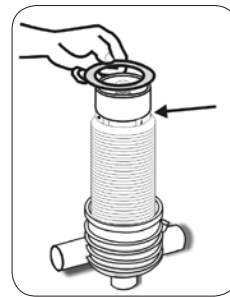

Figure 7
- Check that the correct quantity of discs is assembled on the spine. When the discs are pressed with two hands, the top disc should be centered between the two lines molded in the plastic at the top of the nozzles (Figure 7).